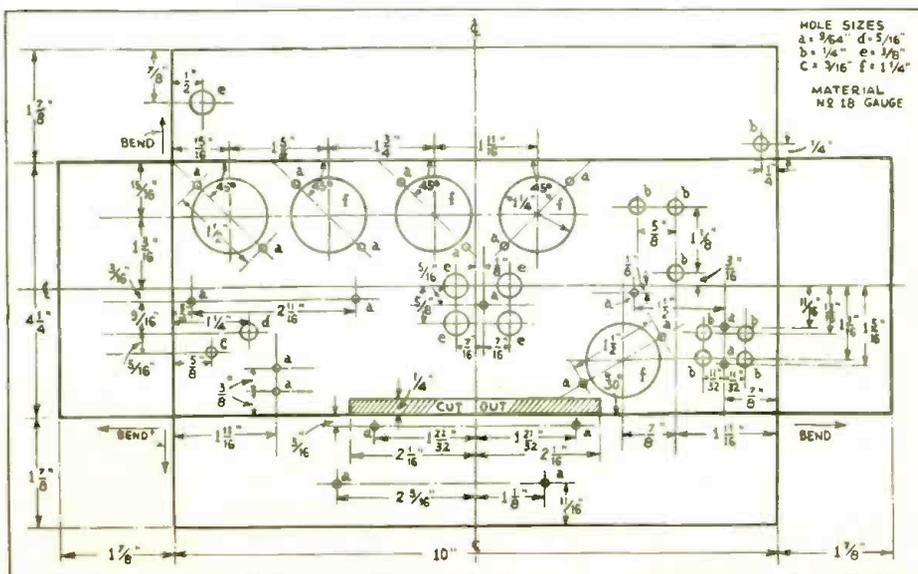

Fig. 2
and may be built at a cost of \$11.85. The counter model may be assembled for \$10.00. The special etched-lithographed panel measures 8 x 10 inches, and is drilled for mounting all sockets, switches, and the meter. Also, there are screw holes for supporting the panel. An itemized list of everything needed is given at the end of this article. The ten wafer type, floating contact sockets should be mounted on the panel as shown in Fig. 2. Be sure to mount the proper socket in its exact location and position on the panel, otherwise the tube type number on the panel would not correspond to the sockets, and the wiring would not conform to the directions.
Turn the panel over so that its under-side faces you. Refer to Figs. 2 and B. Fasten the three 4-prong sockets, V6, V7, V8, in the positions shown at the right by means of small screws and nuts. The filament contacts of each of these sockets should be at the base. Next, mount the three 5-prong sockets, V1, V2, and V5, as shown, one of them at the lower right-hand corner, and the other two on the upper left side. The filament holes should be in the position shown. The three 6-prong sockets are mounted so that two of them are in the center at the top of the panel, V9 and V10, and the other is second from the bottom on the left hand side, V3. Filament holes are in the position shown. The 7-prong socket, V4, is mounted in the lower left-hand corner with filament holes as indicated. If desired, the panel may be procured with all the sockets rigidly mounted with eyelets.
The electro-dynamic speaker is mounted directly on the chassis. (Note that magnetic speakers, similar in over-all size, are available, and may be used instead of dynamic speakers without any circuit changes.) To its left (referring to Fig. 2) is the volume control (R9), and at its right you will observe the shaft of the two-range condensers (CG). The coil (L1) shown in the schematic diagram is the antenna coil. Although this unit is very small physically, it is especially designed for this miniature chassis where conservation of space is vital, and it is actually superior in performance to many larger R.F. transformers because of the use of a litz-wire bank-wound secondary winding of a low D.C. and R.F. resistance. Its primary is of the high-impedance type, and to keep the gain constant over the whole broadcast band, it is capacitatively compensated for the higher frequencies by means of a turn of heavy bus bar, which can be easily discerned on the upper part of the coil form.